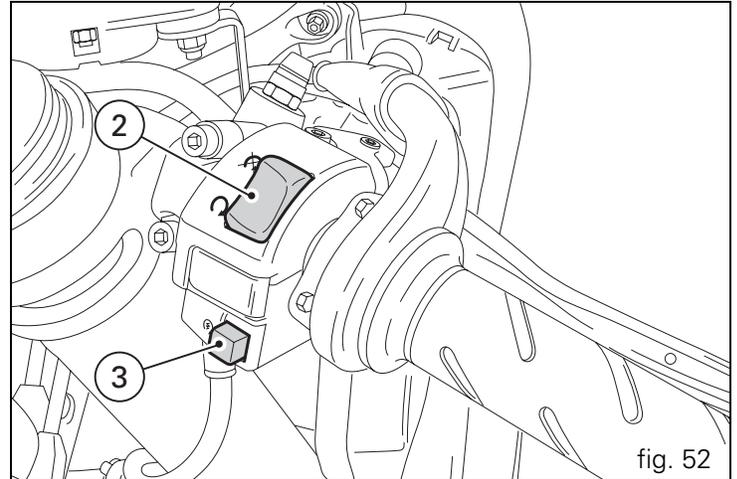

fig. 52
2) Check that the stop switch (2, fig. 52) is positioned to  (RUN), then press the starter button (3, fig. 52). This model has servo-assisted starting. To use the servo-assisted starting feature, press the start button (3) and release it immediately. When you press button (3) the starter motor runs automatically for a period of time that varies according to the engine temperature. The system disengages the starter motor as soon as the engine starts. If the engine fails to start, wait at least 2 seconds before pressing the start button (3) again. Allow the engine to start on its own, without turning the throttle twistgrip.